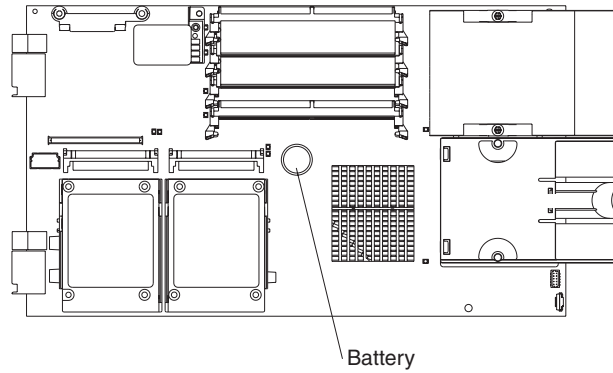

Figure 27. Battery location
5. Locate the battery on the system board (see Figure 27 on page 49).